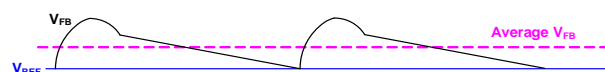

Figure 3: Average V_{FB} in Sleep Mode
During sleep mode, the feedback (FB) voltage (V_{FB}) valley is regulated to the internal reference voltage (V_{REF}). Therefore, the average V_{OUT} in sleep mode slightly exceeds V_{OUT} during discontinuous conduction mode (DCM) or continuous conduction mode (CCM). The on-time pulse in sleep mode is longer than the on-time pulse in DCM or CCM. Figure 3 shows the relationship between the average V_{FB} and internal V_{REF} in sleep mode.